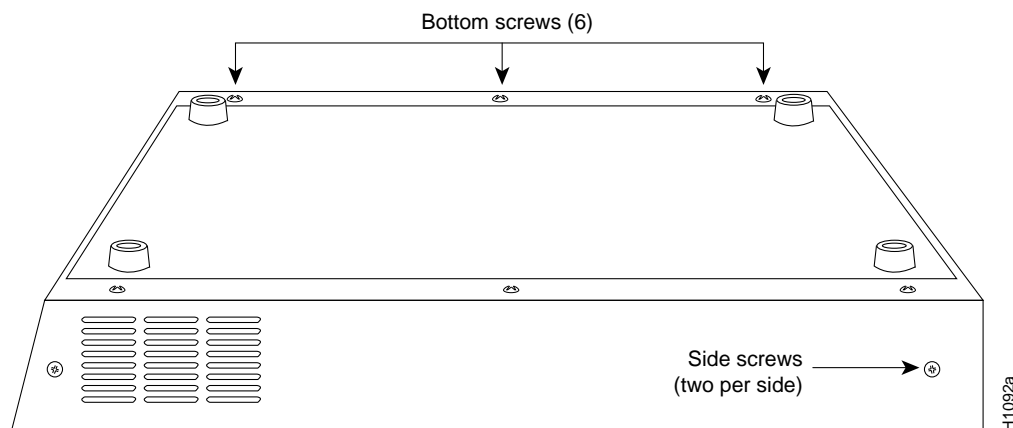

Figure 9 Screw Locations on the C Chassis Exterior—Side View
- Step 3** Use the No. 2 Phillips screwdriver to remove the ten screws that secure the cover of the C chassis. There are two screws on each side and six screws on the bottom of the chassis. (See Figure 9.)
Step 4 Position the chassis so that the back (the side with the ports) is on your left; the front of the chassis (with the LED) is on your right; and the chassis top is facing up. (This is completely opposite of the chassis position shown in Figure 9.)